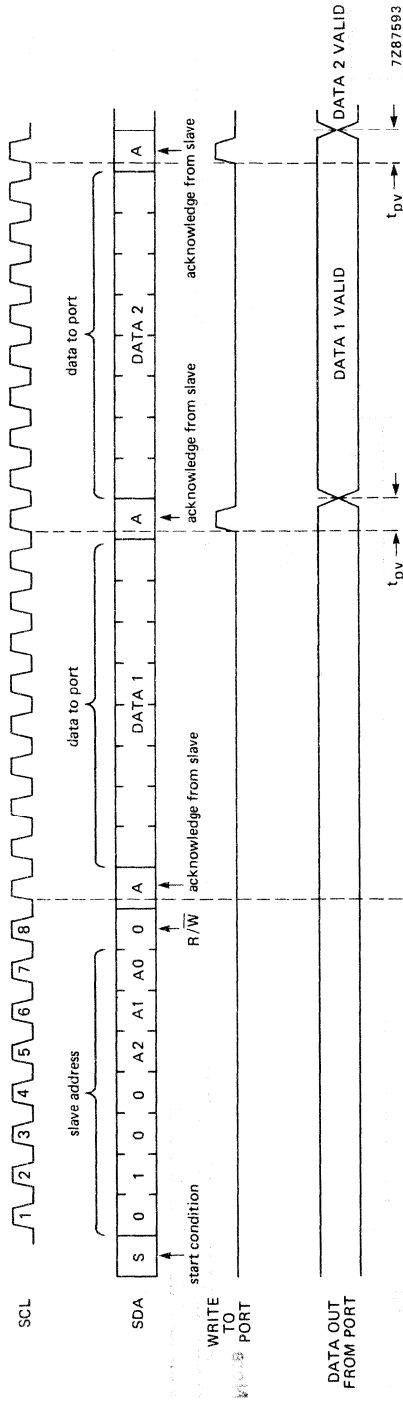

Fig. 12 WRITE mode (output port).
**Addressing** (see Figs 12 and 13)